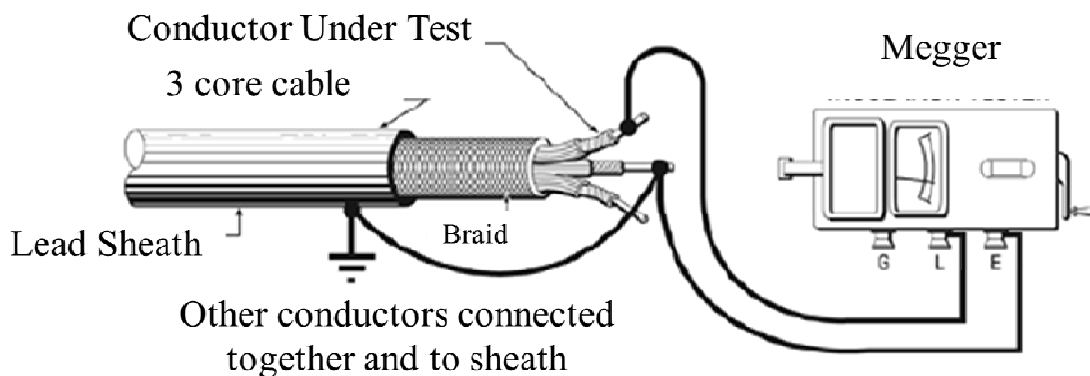

Figure 2: Insulation Resistance test of Cable
1. Connect the L terminal of megger to conductor under test as shown in Fig. 2.